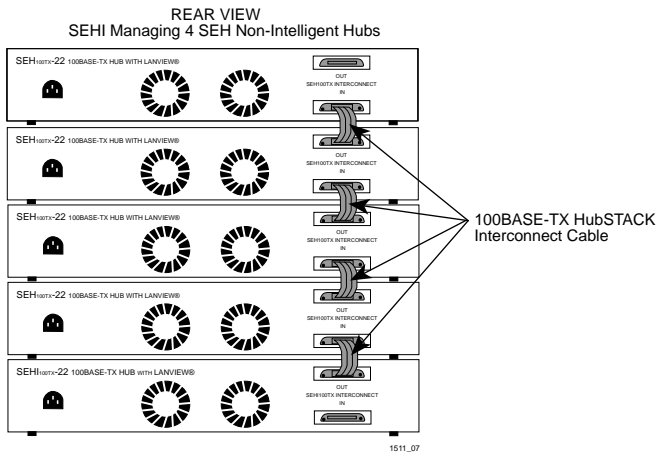

Figure 4-6 Stacking the SEHI
- Attach the HubSTACK Interconnect cable provided with the SEH to the “IN” port on the rear panel of the SEH as shown in Figure 4-6.